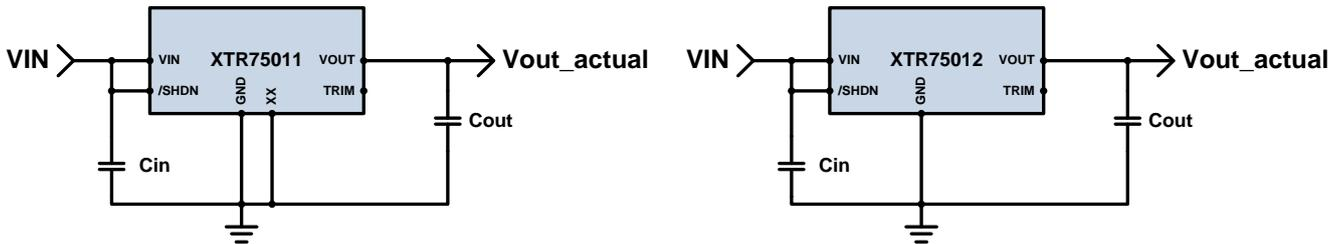

Figure 2. Untrimmed applications of the XTR75011 and XTR75012.
In the untrimmed application as shown in Figure 2, equation (1) can be rearranged to
This last sentence means that, for the untrimmed application shown in Figure 2, equation (2) can be rewritten as
The actual reference voltage inside a part can be obtained from the direct measurement of the untrimmed output voltage (see Figure 2) and equation (3).
In this example, it is supposed that a 5V output voltage is desired. Implementing the schematics of Figure 2 with the "XX" pin being the "5V" pin of the XTR75011, we obtain a measured untrimmed output voltage of 5.083V. Removing the XTR75011 from the test fixture and measuring the resistance between pin VOUT and 5V, we obtain $(R_1+R_2)=138.8k\Omega$. Repeating the operation between pins TRIM and 5V it is obtained $(R_{TRIM}+R_2)=44.0k\Omega$. Selecting $R_A=100k\Omega$ and entering all values in the corresponding cells of the spreadsheet it is obtained that the needed R_B is 33.261kOhm. The closest value to 33.261kOhm from the E192 resistor series is 33.2kOhm. In the "Validation" section of the spreadsheet it is calculated the trimmed output voltage obtained with a valid value of R_B .